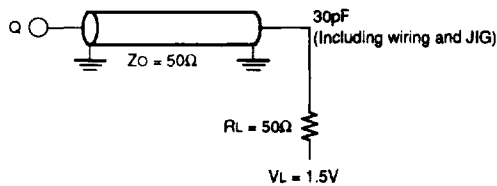

Fig. 1 Output load
Output load Fig. 1, 2
23. Test conditions is specified with the output loading shown in Fig. 1 unless otherwise noted.